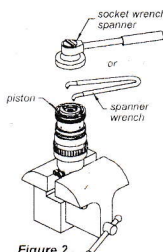
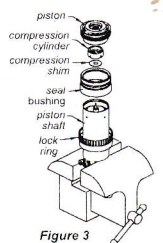
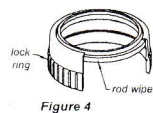

Figure 2
Figure 3
Figure 4
4. Clamp the piston shaft eyelet in the vice, and use a spanner wrench or socket wrench with special spanner head (available from Cane Creek) to unscrew and remove the piston (Figure 2). Be careful not to lose the compression cylinder and compression shim (Figure 3).
5. Now remove the seal bushing from the piston shaft by sliding it off the open end of the shaft (Figure 3). The lock ring can also be removed and the rod wiper can be replaced (Figure 4).